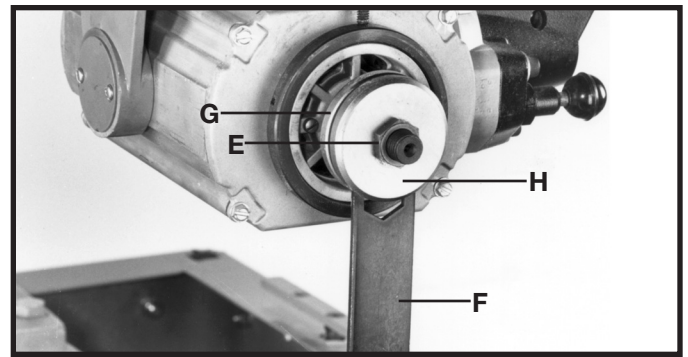

Fig. 19
3. Place wrench (F) Fig. 19, between inner flange (G), and outer flange (H) and tighten arbor nut (E). Make certain wrench (F) is above the table surface. If necessary raise track arm.